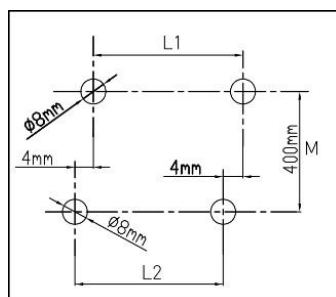

Fig.2
- 1 – Drill holes according to the instructions of fig. 2